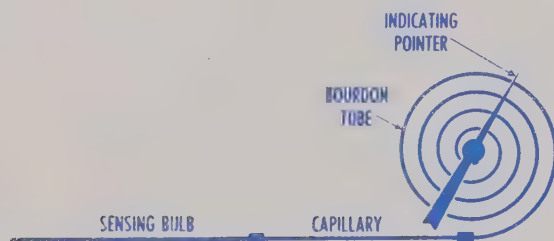

FIG. 1
Dials are factory calibrated to a mid-range temperature when zero mark is aligned with the temperature graduation. (As shown in FIG. 1, this dial is calibrated to produce a chamber temperature of 200°C. when set at zero.)
Movable pointer has a dial lock (Item C, FIG. 1) which is provided to prevent the control from being accidentally changed. Loosen thumb screw and slip pointer lock assembly out. Lock assembly may be secured in four (4) positions, or every 90° around the dial. This allows the movable pointer to rotate almost a full 360°. Dial lock must be secured in fixed holder or it will rotate with pointer instead of locking it.
STEP I - Using a separate means of indication, (thermometer, recorder, etc.) operate unit at a mid-scale temperature. In case of example shown in FIG. 1, 200°C., stabilize unit at desired temperature as indicated on separate indicating instrument.
STEP II - After unit has stabilized at set temperature, carefully loosen control knob set screws. (Item B, FIG. 1) These screws should remain in contact with control shaft and only be loose enough to slip forward or backward on control shaft. Loosen pointer locking screw. Item A, FIG. 1. There is a Star Lock washer between plastic knob and aluminum pointer. Screw "A" must be loose enough to allow movement of pointer. Holding knob so that the Control Shaft cannot move, slip pointer until the zero mark is aligned with set temperature. Retighten dial lock screw "A" and set screws "B". Dial is now calibrated to set temperature.
The basic Ready-Read thermal system is shown in Figure 1. The entire system is filled with a liquid that expands with an increase in temperature. The sensing bulb is a fine bore tubing immersed in the work chamber to measure the temperature. The capillary is also a fine bore tubing that merely "transmits" pressure changes from the sensing bulb to the "Bourdon tube". The Bourdon tube converts pressure changes into rotary motion, thus providing indication on the calibrated scale.